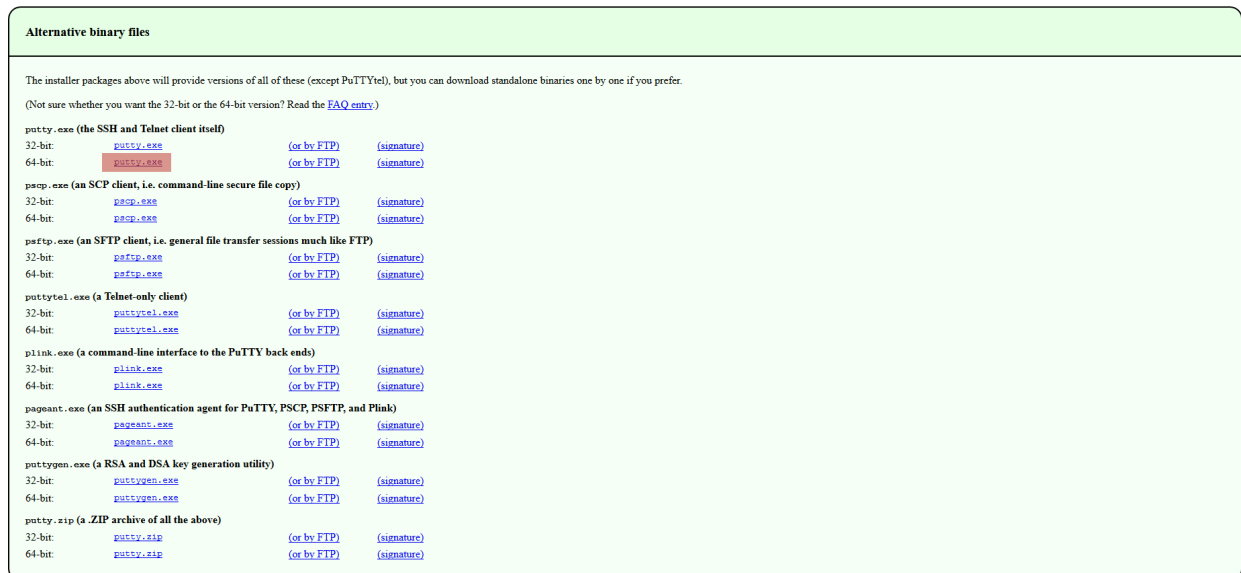

Figure 5: PuTTY Download webpage with correct download highlighted
- Download the alternative 64-bit putty.exe executable (Figure 5)